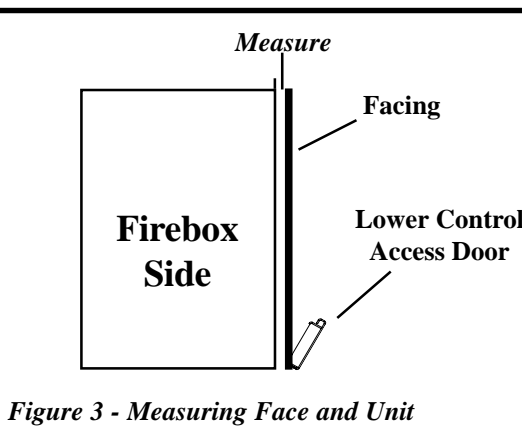

Figure 3 - Measuring Face and Unit
5. If face is installed as a flush mount, then there is no need to measure between firebox and face. If marble or other non-combustible material is used between the firebox and facing, then measure distance between face and unit. (Max. of 7/8”)(See Figure 3)